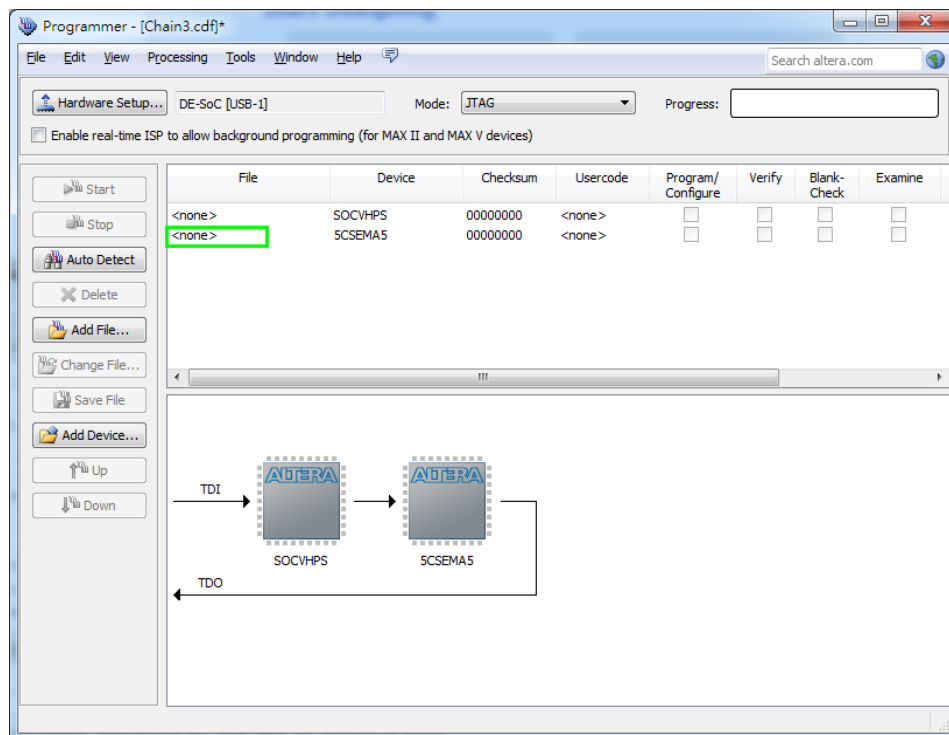

Figure 8-6 Two devices are detected in the Quartus II Programmer
3. Click **Auto Detect** and then select the correct device. Both FPGA device and HPS should be detected, as shown in **Figure 8-6**.
4. Double click the green rectangle region shown in **Figure 8-6** and the **Select New Programming File** page will appear. Select the .jic file to be programmed.
3. Click **Auto Detect**, and then select correct device, both FPGA device and HPS will be detected. (See **Figure 8-6**)
4. Double click the green rectangle region shown in **Figure 8-6**, and the **Select New Programming File** page will appear. Select the correct .jic file.